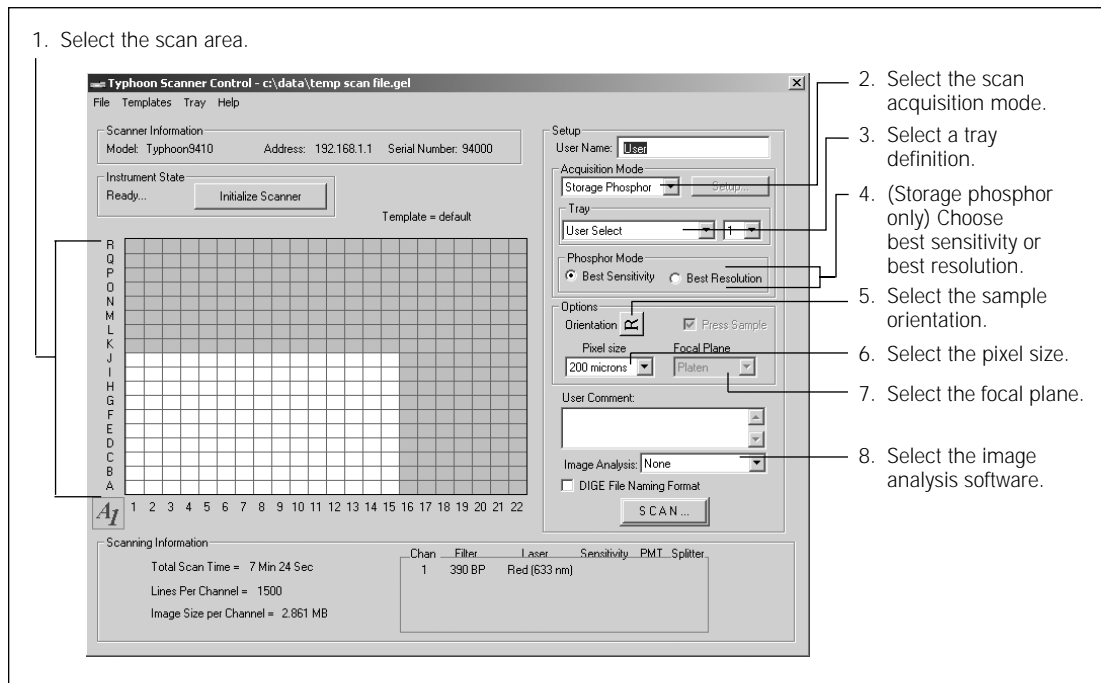

Figure 3-9. Selecting parameters in the Setup area of the Scanner Control window.
1. In the Setup area of the Scanner Control window (figure 3-9), select the parameters you want saved with the template. Note that comments in the User Comment box are not saved with the template.